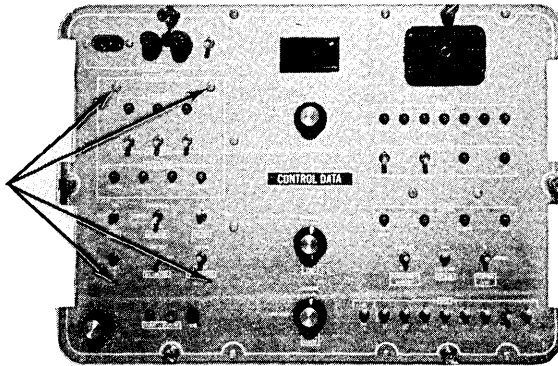

Figure 6-2. Power Supply Mounting Screws
2. Remove the four power supply mounting screws from the front side of the panel {see Figure 6-2}.